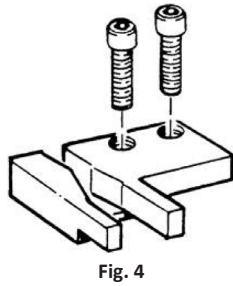
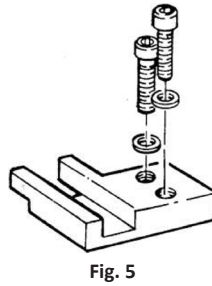

Fig. 4
Fig. 5
- Each set of strap guides consists of an exit (Fig. 4) and re-entry guide (Fig. 5).